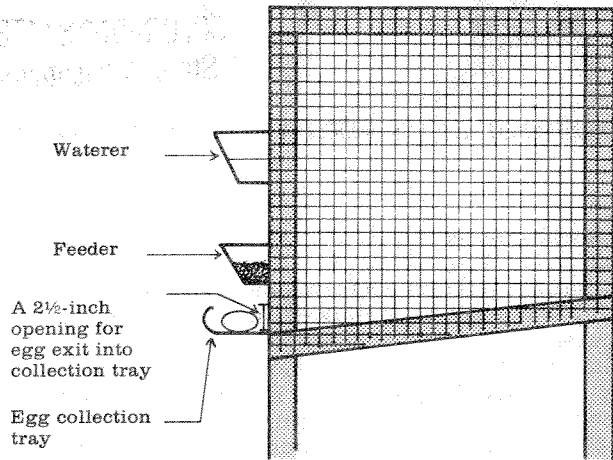

Figure 3: Side view of colony cage with feeder, waterer and collection tray in place.
- Leave a 2½-inch space between the bottom of the floor in the front and the bottom edge of the front wire so that the eggs will roll out into the collection tray (see Figure 3).
- Waterers and feeders can be made of rain guttering (see Figure 3) and attached to the front of the cage or at any convenient spot. Be sure the birds have easy access to the feed and water. It may be necessary to cut the wire above the troughs to provide vertical slots two inches wide and six to eight inches long.